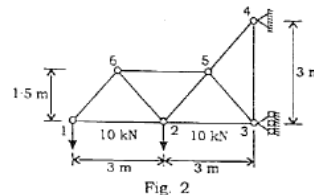

Fig. 2
- Determine the forces in the members of the truss shown in Fig. 2 7